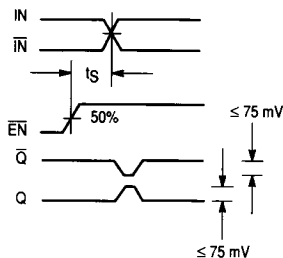

Figure 1. Setup Time
5. The setup time is the minimum time that \overline{EN} must be asserted prior to the next transition of IN/ \overline{IN} to prevent an output response greater than ± 75 mV to that IN/ \overline{IN} transition (see Figure 1).